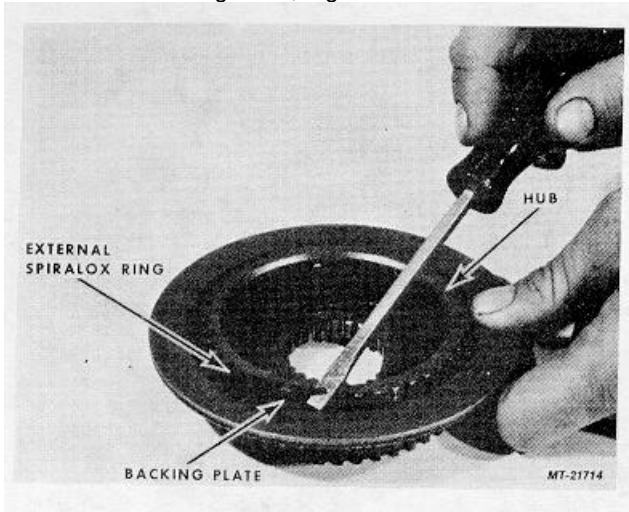

Fig. 22
19. Using screwdriver remove External SpiraloX Ring and remove Backing Plate, Fig. 22.